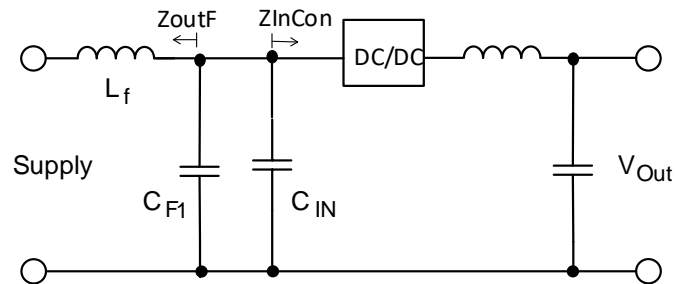

FIGURE 7: IMPEDANCE OF INPUT FILTER AND DCDC CONVERTER
The input filter has a Q factor (Q) and an output impedance ( $Z_{OutF}$ ), while the DC/DC converter has an input impedance ( $Z_{InCon}$ ), as shown in Figure 7.